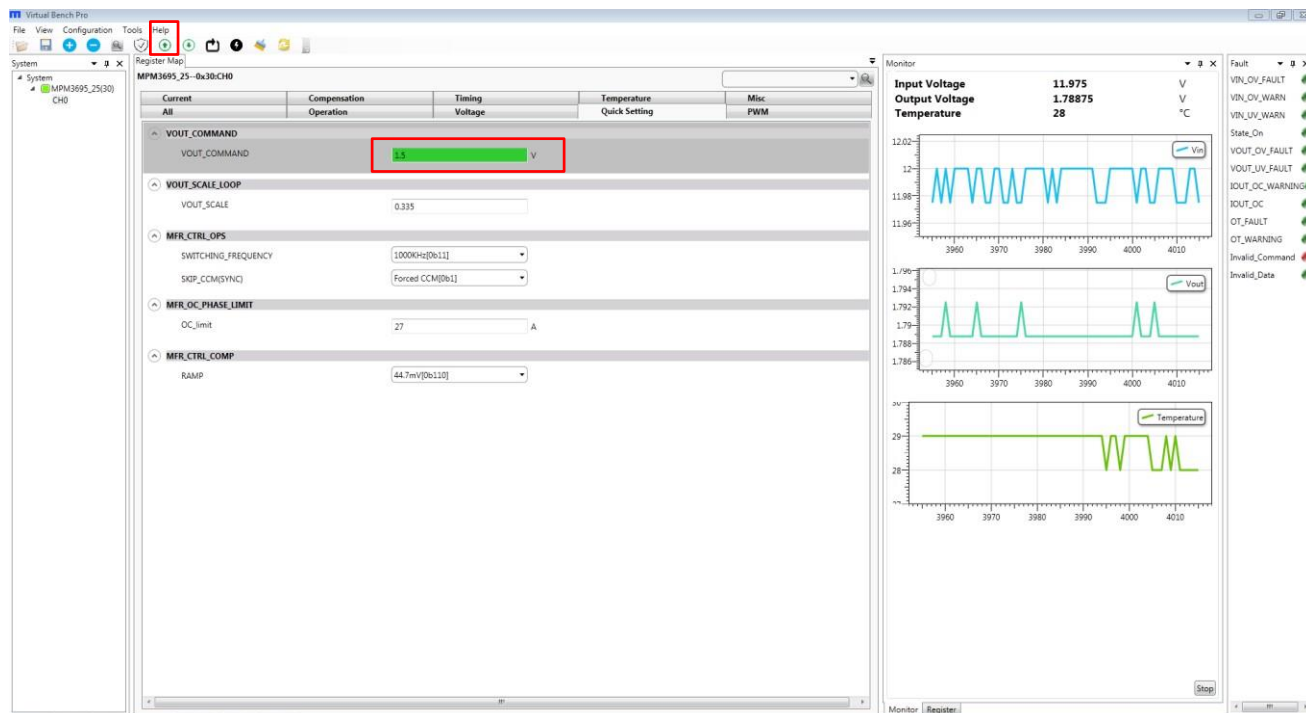

Figure 9: Write Values Steps Shown in Table
- Click the **“Write to chip”** button to write values to the register (see Figure 9).